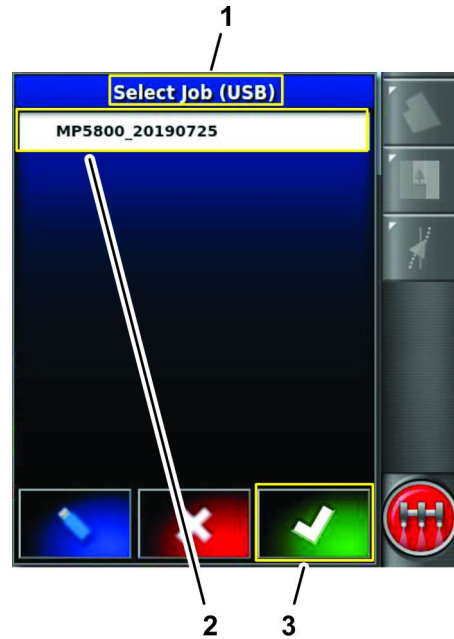

Figure 95
6. Press the icon of the job that you want to transfer to the other machine, and press the confirm icon (Figure 95).